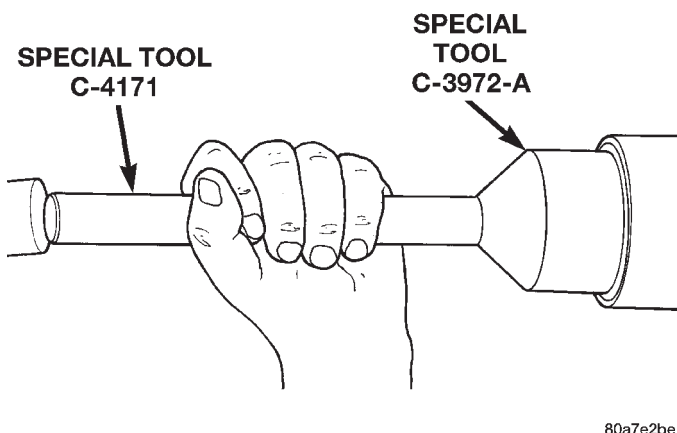

Fig. 19 Pinion Seal Installation
(3) Install pinion front bearing, if necessary.
(4) Apply a light coating of gear lubricant on the lip of pinion seal. Install seal with Installer C-3972-A and Handle C-4171 (Fig. 19).